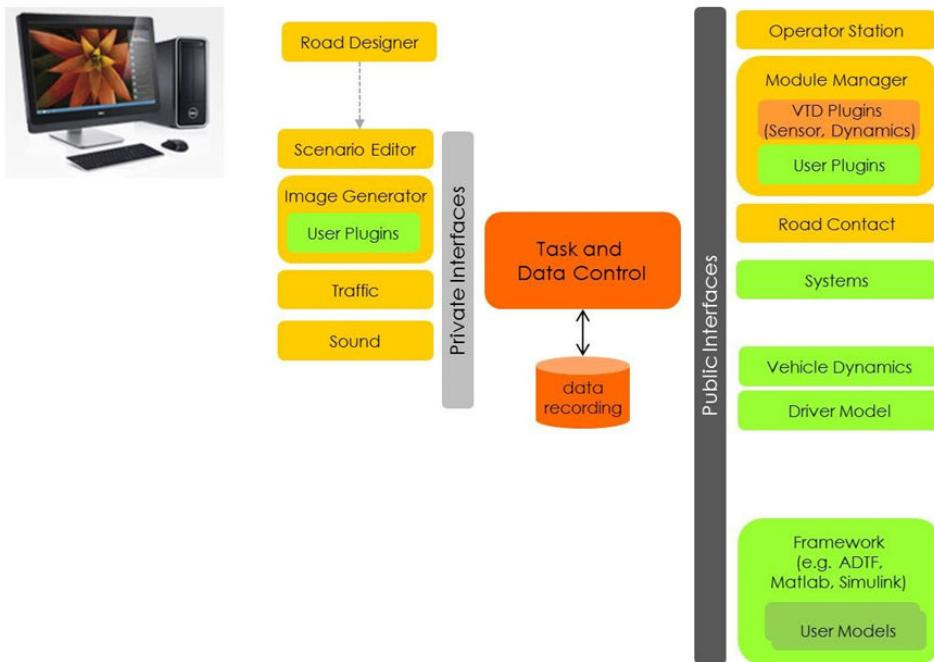

Figure 31. TaskControl within the Simulation
The TaskControl (TC) is the central element of the simulation, managing the main command and data flow. It provides individual interfaces to each component and may serve various communication protocols. Figure 31 shows the embedding of the TaskControl within a typical simulation setup.